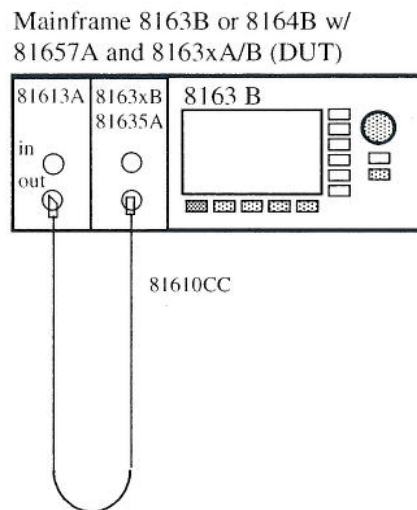

Figure 6 Return Loss Measurement Setup
- 2 Set up the equipment as shown in Figure 6.